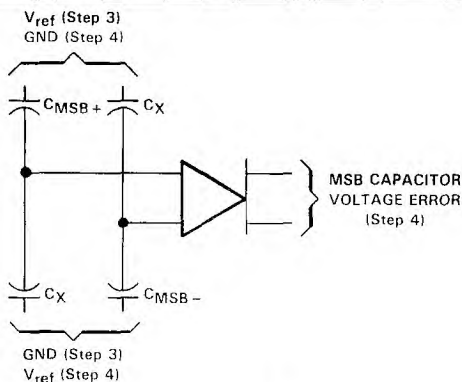

FIGURE 2
4. Now the MSB capacitor is tied to GND, while the rest of the ladder capacitors, C_x , are tied to REF. An MSB capacitor voltage error (see Figure 2) on the comparator output will occur if the MSB capacitor does not equal the sum of the other capacitors in the capacitive ladder. This error voltage is converted to an 8-bit word from which a capacitor error is computed and stored in the RAM.